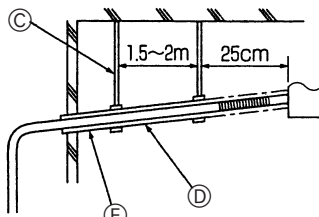

Fig. 8-2
- (4) Ensure that the drain piping down-gradient is greater than 1/100. (Fig. 8-2)